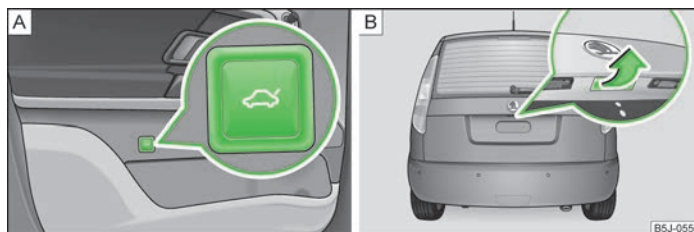

Fig. 17 Unlock the boot lid/boot lid handle
- Press the button in the driver's door » Fig. 17 - [A] and open the boot lid in the direction of arrow » Fig. 17 - [B].
- Push the handle and lift the boot lid in the direction of the arrow » Fig. 17 - [B].